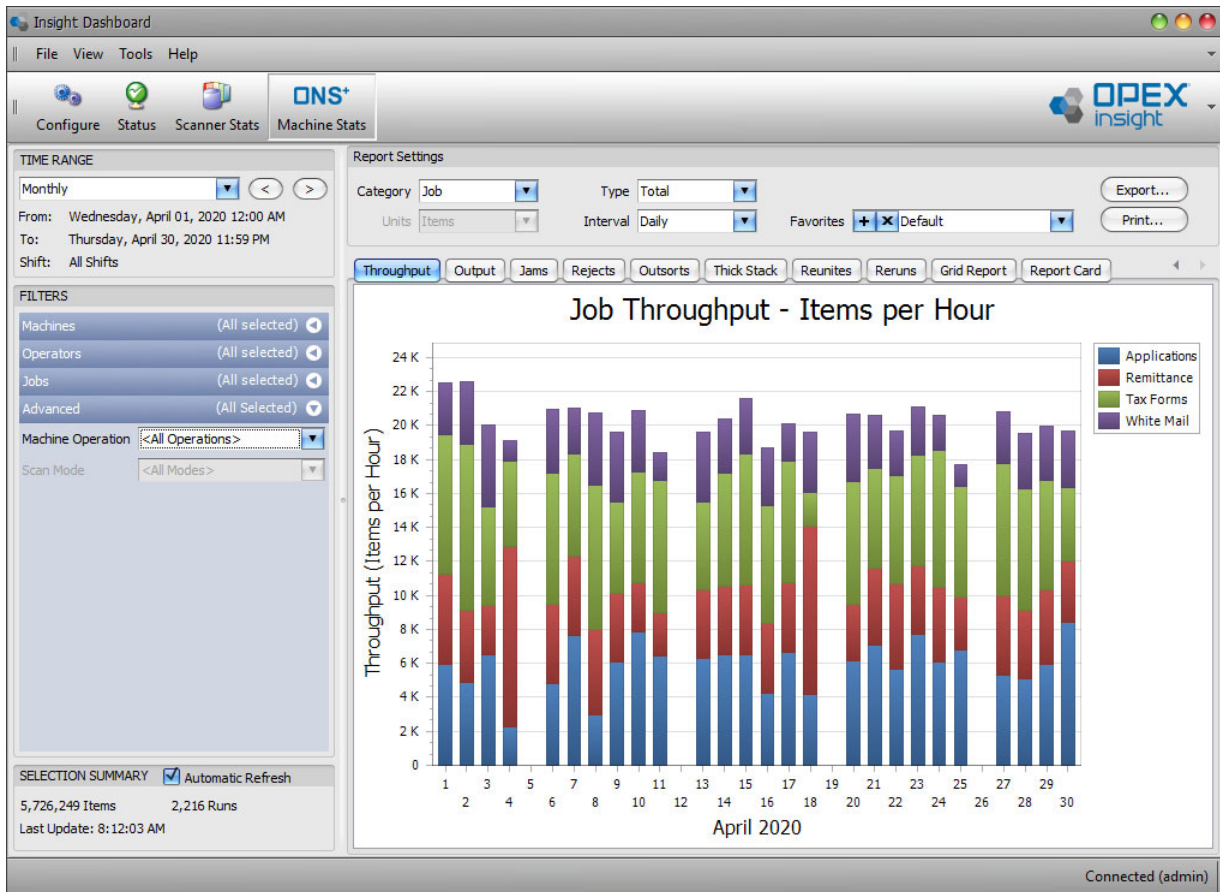

Figure 1-3: Insight Dashboard
- A feature-rich statistics module simplifies the task of reporting across all operators, scanners and jobs (Figure 1-3).